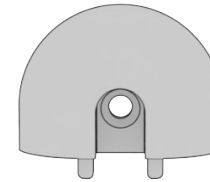

FIG 9
2.4 Attach End Caps (OPTIONAL): If your application necessitates trimming the **L-Track Extrusion**, we've supplied **End Caps** to use at your discretion. Simply snap it into place in the orientation shown in **FIG 9** and finish by driving a **#8 Screw** into your wall panel (if applicable).